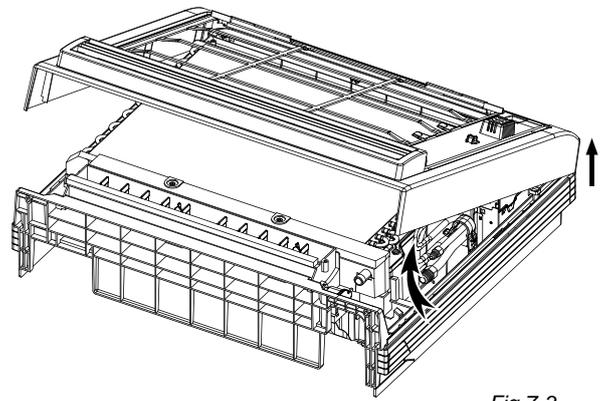

Fig.7-3
- Open the bottom of the faceplate at a 30 degree angle, then the top of face plate can be lifted. (Refer to Fig. 7-3)